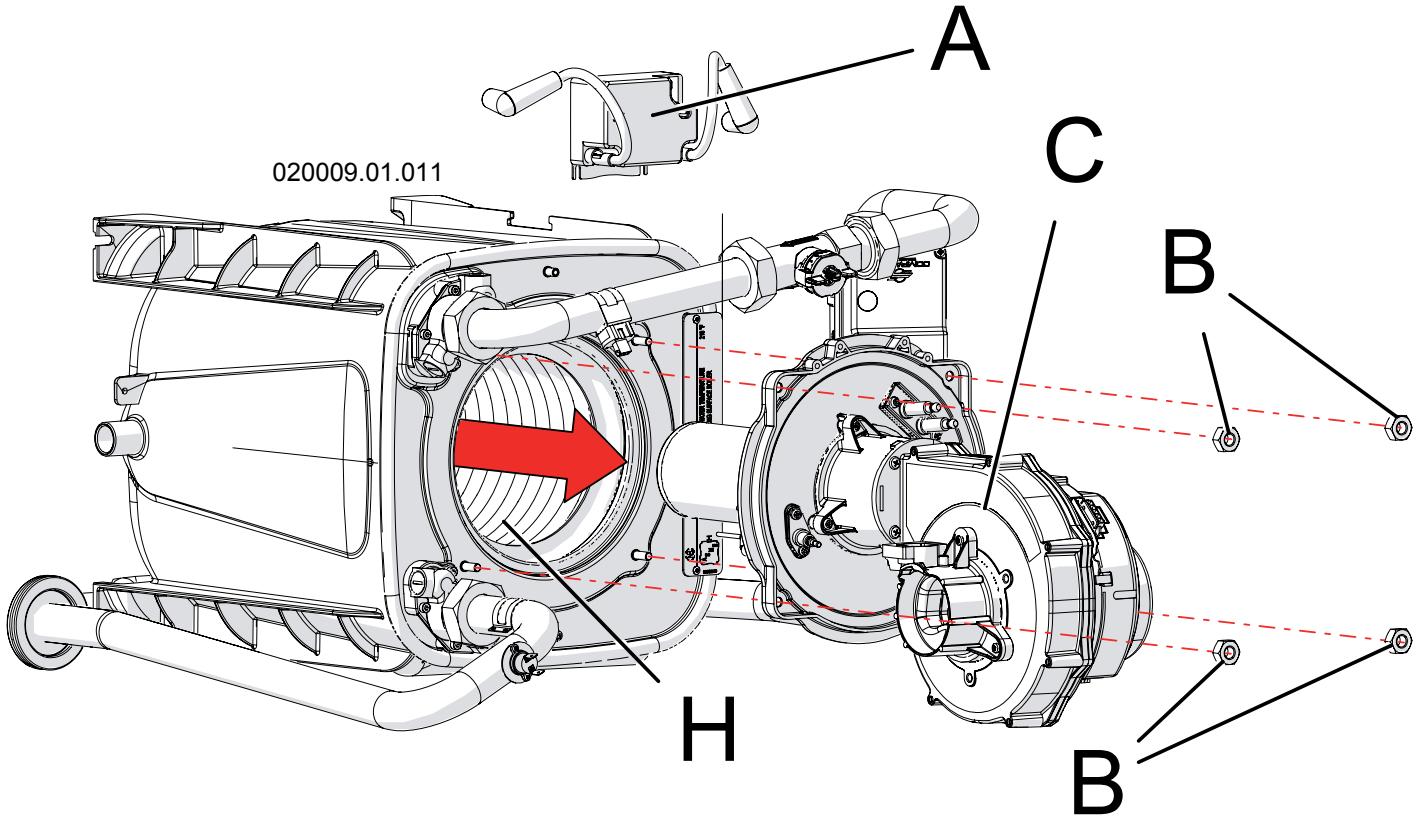

Figure 17-7 Remove the fan burner assembly
11. unscrew the four nuts "B" in Figure 17-7;
12. remove the entire fan - burner assembly, detail "C" in Figure 17-7;
13. use a cylindrical brush with plastic bristles to clean the inside of the combustion chamber, detail "H" in Figure 17-7;
14. use a vacuum cleaner to remove any unburned residue from the combustion chamber "H" in Figure 17-7;
⚠ WARNING!!! While performing the next step, carefully wash only the inside of the combustion chamber "H" of Figure 17-7, and do not get water on the outside of the combustion chamber opening. Failure to comply with this warning can cause extensive property damage, severe personal injury or death!
16. using only water, wash the inside of the combustion chamber, detail "H" in Figure 17-7. The water, will drain into the condensate drain;